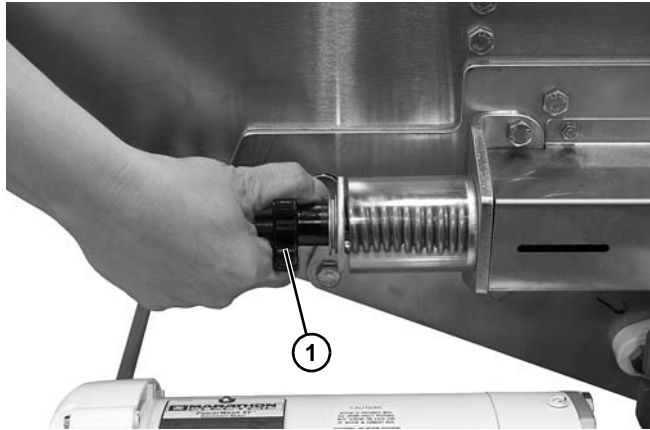

Figure 48
5. Rotate tension nut (**Figure 48, item 1**) on each side of the center drive counterclockwise to remove all tension on the belt.